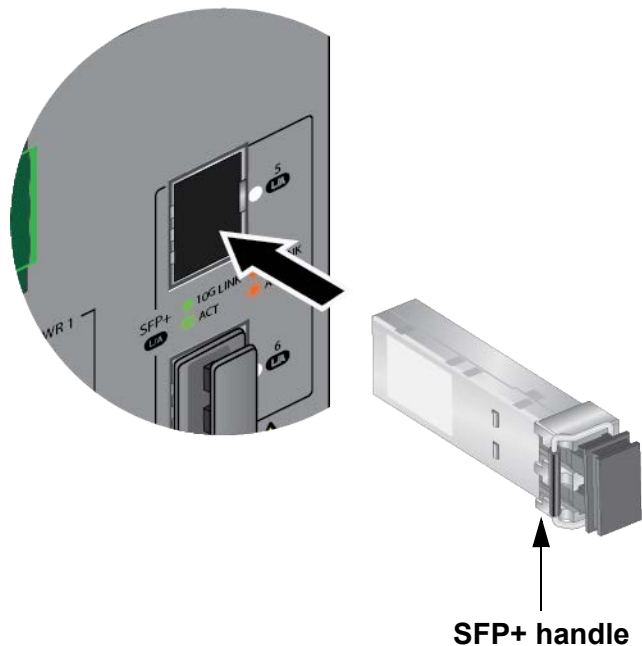

Figure 26. Installing an SFP+ Transceiver
3. Position the transceiver with its handle on the right and slide it into the port until it clicks into place. Refer to Figure 26.